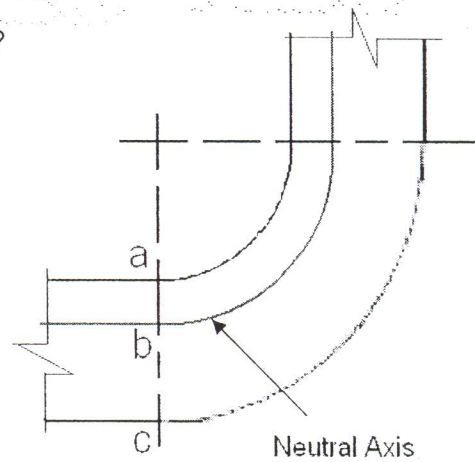

Figure 1 Neutral axis with 90° bend
7. In figure 1 below shows the neutral axis of a bend metal at 90°.